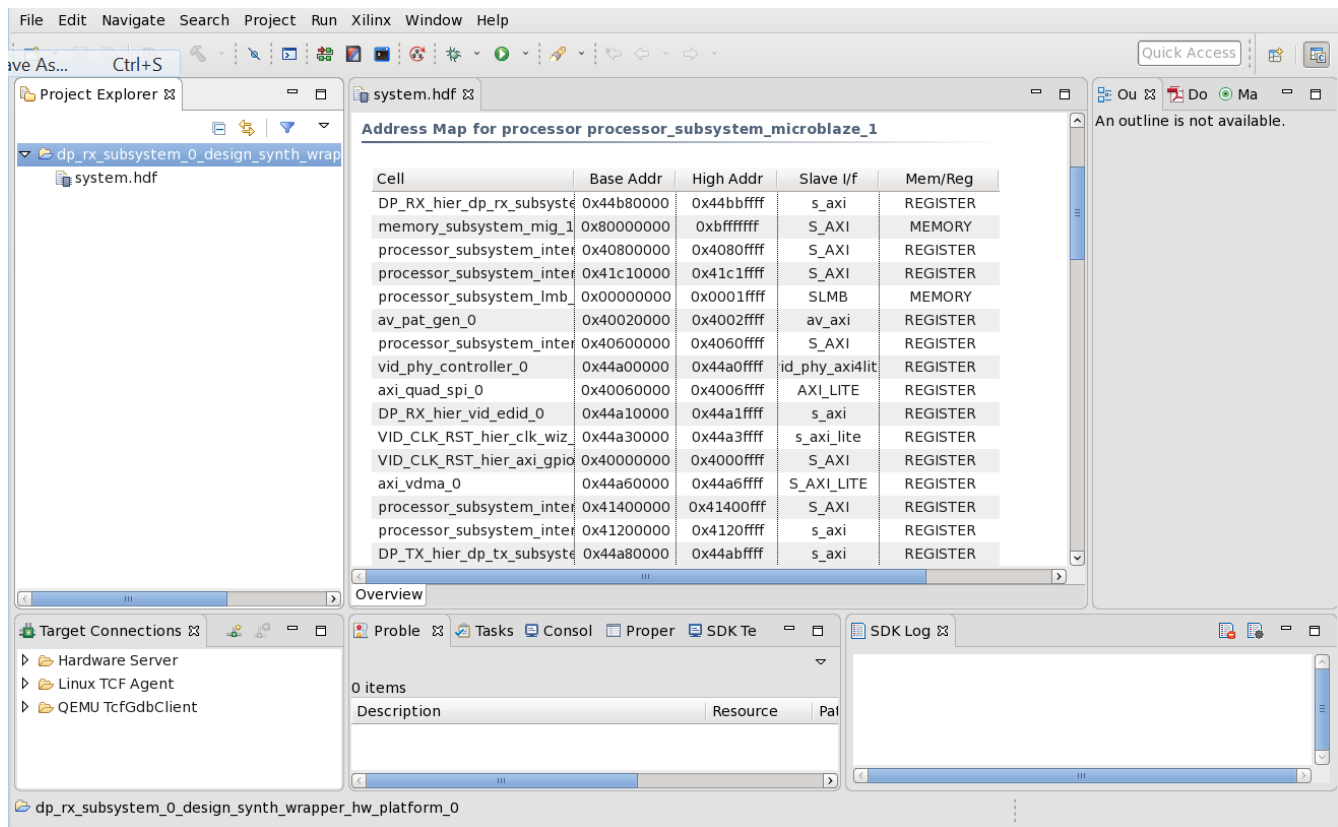

Figure 5-13: Vivado SDK
14. Figure 5-13 shows an example of the launched Vivado SDK.